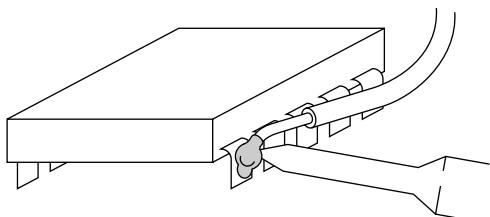

FIGURE 8-20: Feeding stripped wire-wrap wire into reheated solder bump
4. Just as in the example of soldering to the cleaned printed circuit trace, the solder blob is heated and the stripped end of your wire-wrap wire is fed into the hot mass (see Figure 8-20).